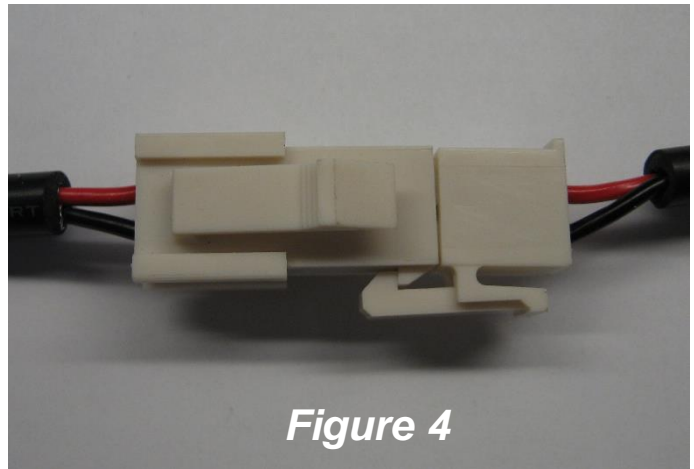

Figure 4
- 7) Insert the two holed connector of the DC-DC converter into the connector of the USB receptacle (shown in *Figure 4*).